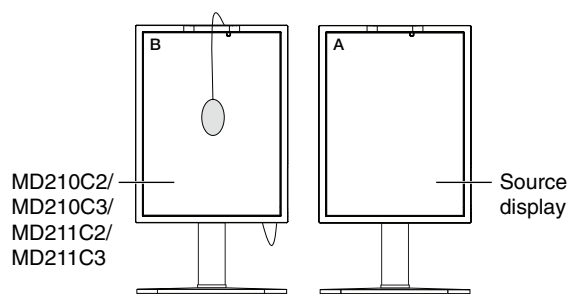

Figure C.2
7. When you want to confirm the white point of Display B, remove the USB color sensor from source Display A and place in the center of Display B (**Figure C.2**). To skip the white point confirmation, Display B, press “SELECT” to step 9 for FINE TUNING.